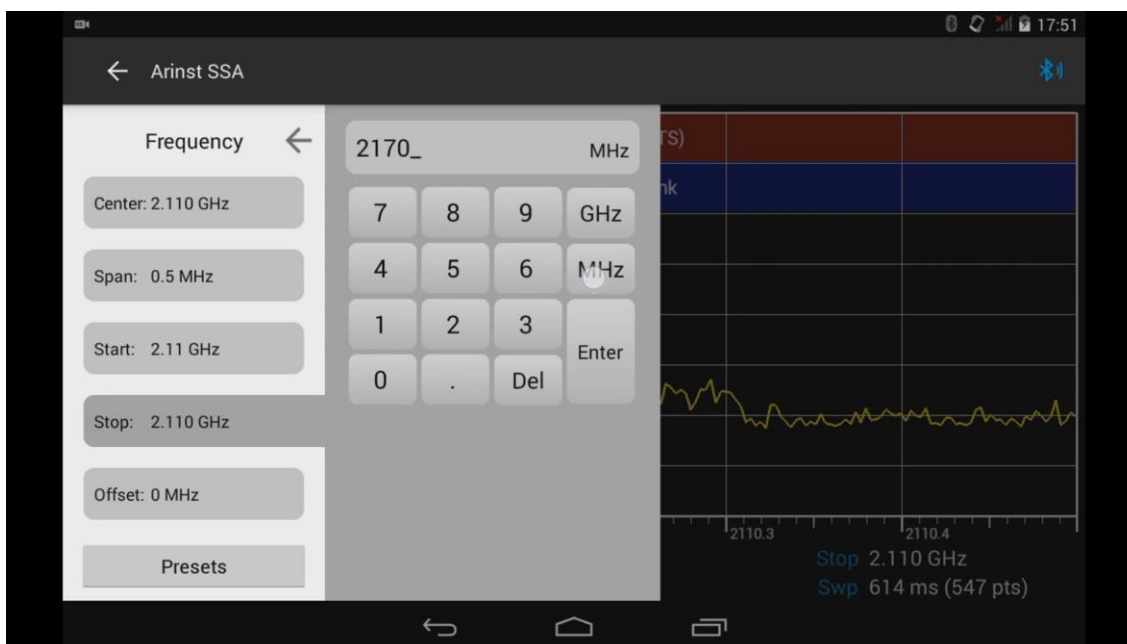

Figure 31 – Input of frequency parameters
8.5.3. Setting each of the parameters is performed by entering numerical values in the opened sub-menu, as in figure 31. Enter a numeric frequency value and press **Enter** (enter data). To delete erroneous or previously entered values, press **Del** (Delete). To stop entering a value, click on any free point on the screen of the tablet/smartphone. *In our example, in figure 31, the final value of the frequency range is set.*